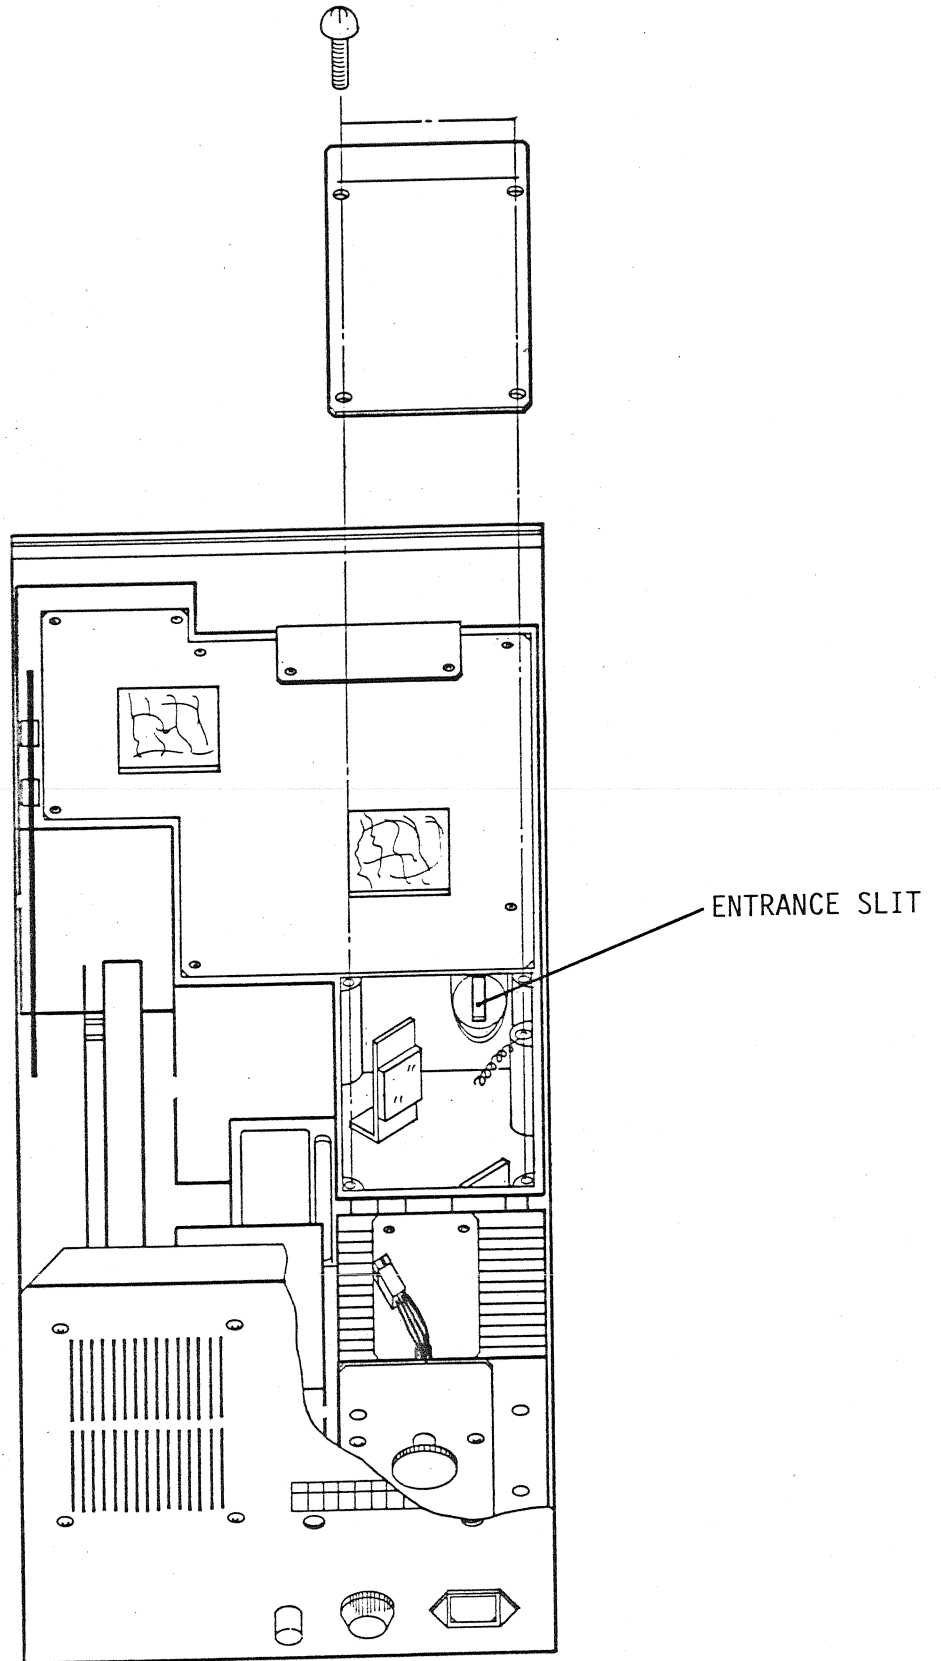
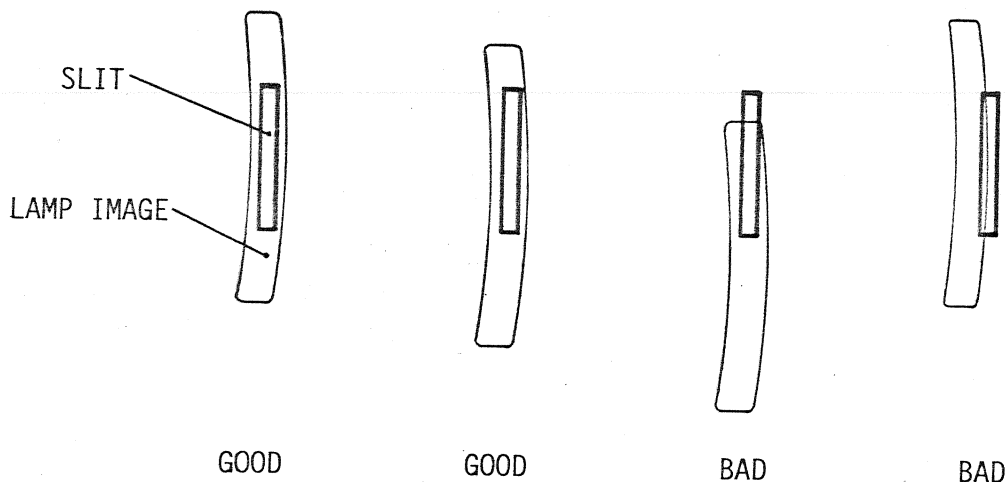

Fig. 10-3 Position of Entrance Slit
Fig. 10-4 Various Lamp Images on Entrance Slit
- 9) Observe the lamp image on the entrance slit, referring to Fig. 10-3, and move the lamp up and down and rotate so that the image covers over the slit properly as shown in Fig. 10-4.
- 9) Observe the lamp image on the entrance slit, referring to Fig. 10-3, and move the bracket right and left so that the image covers over the slit properly as shown in Fig. 10-4.